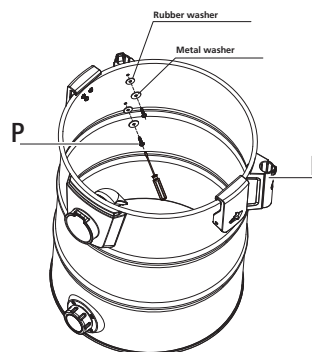

Fig. 4
- Attach side tank handles (F) to the tank with the screws (P) provided. (Fig. 4)